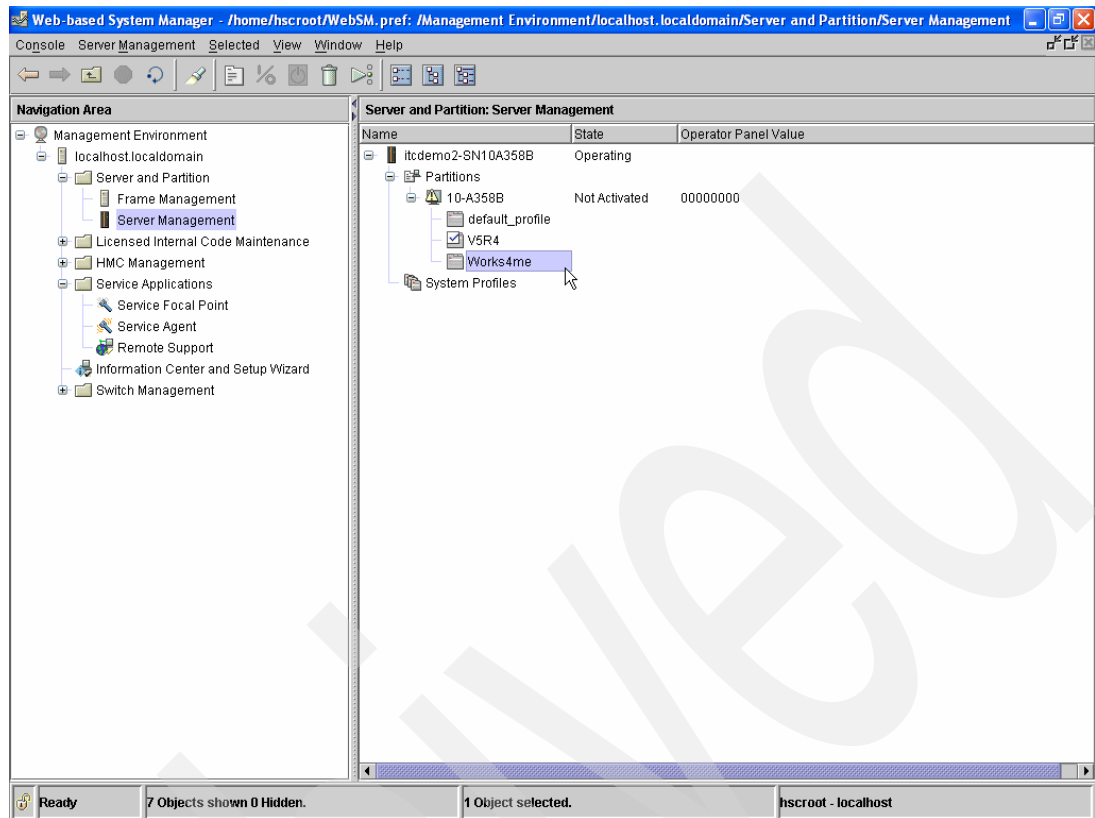

Figure 8-6 Selecting a partition profile
At V5R4, all VE LAN connections, whether they are in System i5 partitions or hosted servers, require a Virtual Ethernet resource. For example, in Figure 8-6 on page 316, the Virtual Ethernet connection in each one of the System i5 partitions requires a Virtual Ethernet resource, which needs to be created.
1. Select a partition profile as shown in Figure 8-6 on page 316.